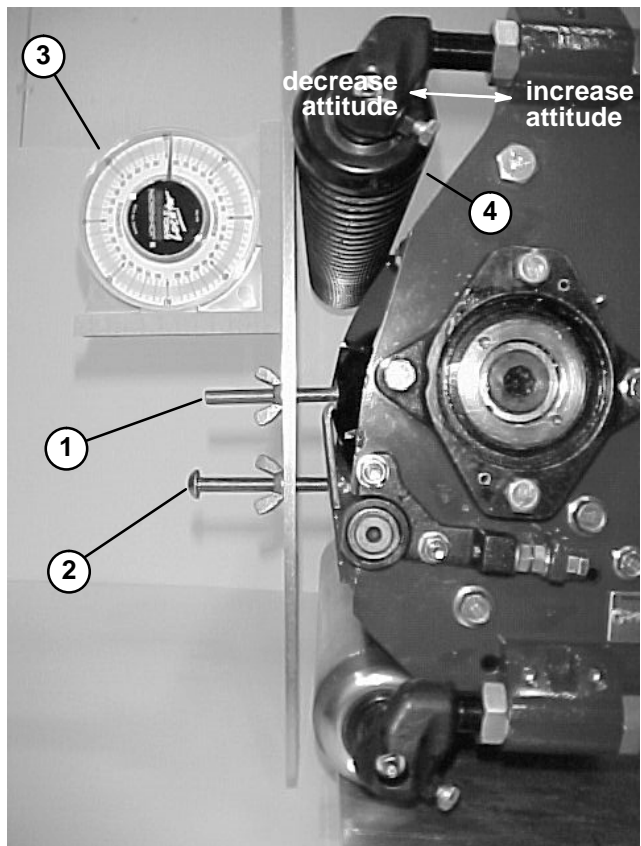

Figure 16
4. Place the gauge bar across front and rear rollers. The first screw head needs to fit snugly over edge of the bedknife, while the gauge bar contacts the front roller (Fig. 16).
6. Place an angle indicator on the gauge bar and record the gauge bar angle (Fig. 16).
Note: Moving the front roller down will decrease your cutting unit attitude, while moving the front roller up will increase cutting unit attitude (Fig. 16).